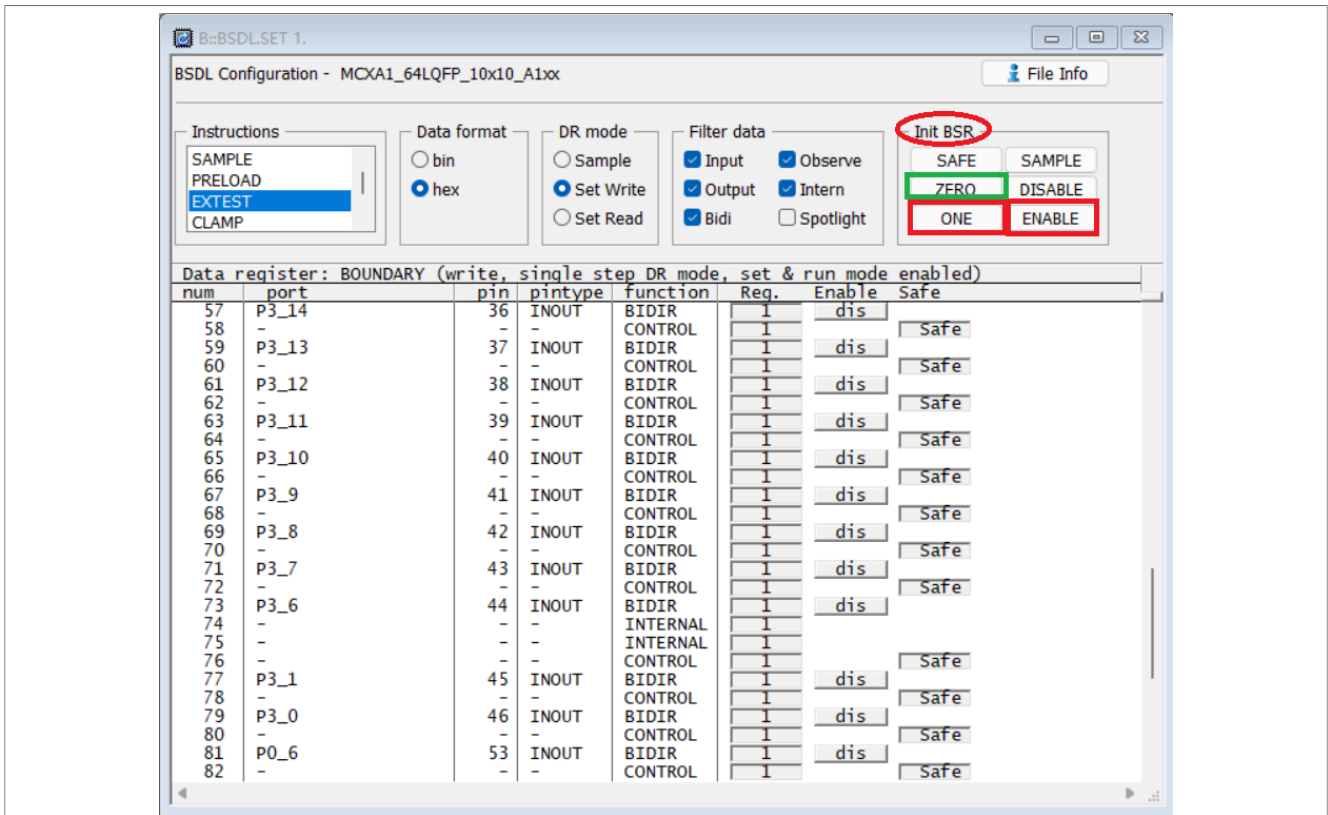

Figure 21. Preload IO output status
- The PRELOAD test is used with EXTTEST. As Figure 21 shows, clicking the **ONE** or **ZERO** button can control all GPIOs to output high or low level and clicking the **ENABLE** button in the **Init BSR** group can enable all GPIOs.